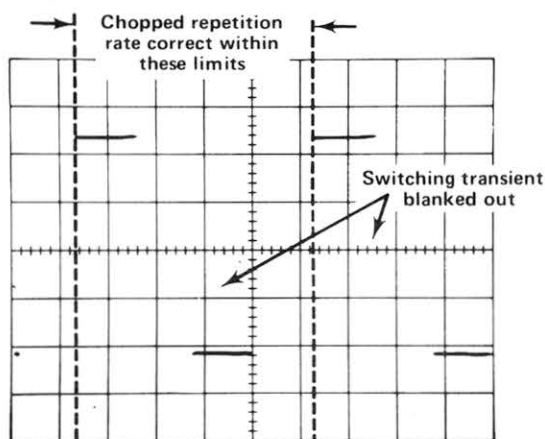

Fig. 5-17. Typical CRT display when checking chopped repetition rate and blanking.
d. CHECK—For complete blanking of switching transients between chopped segments (see Fig. 5-17).